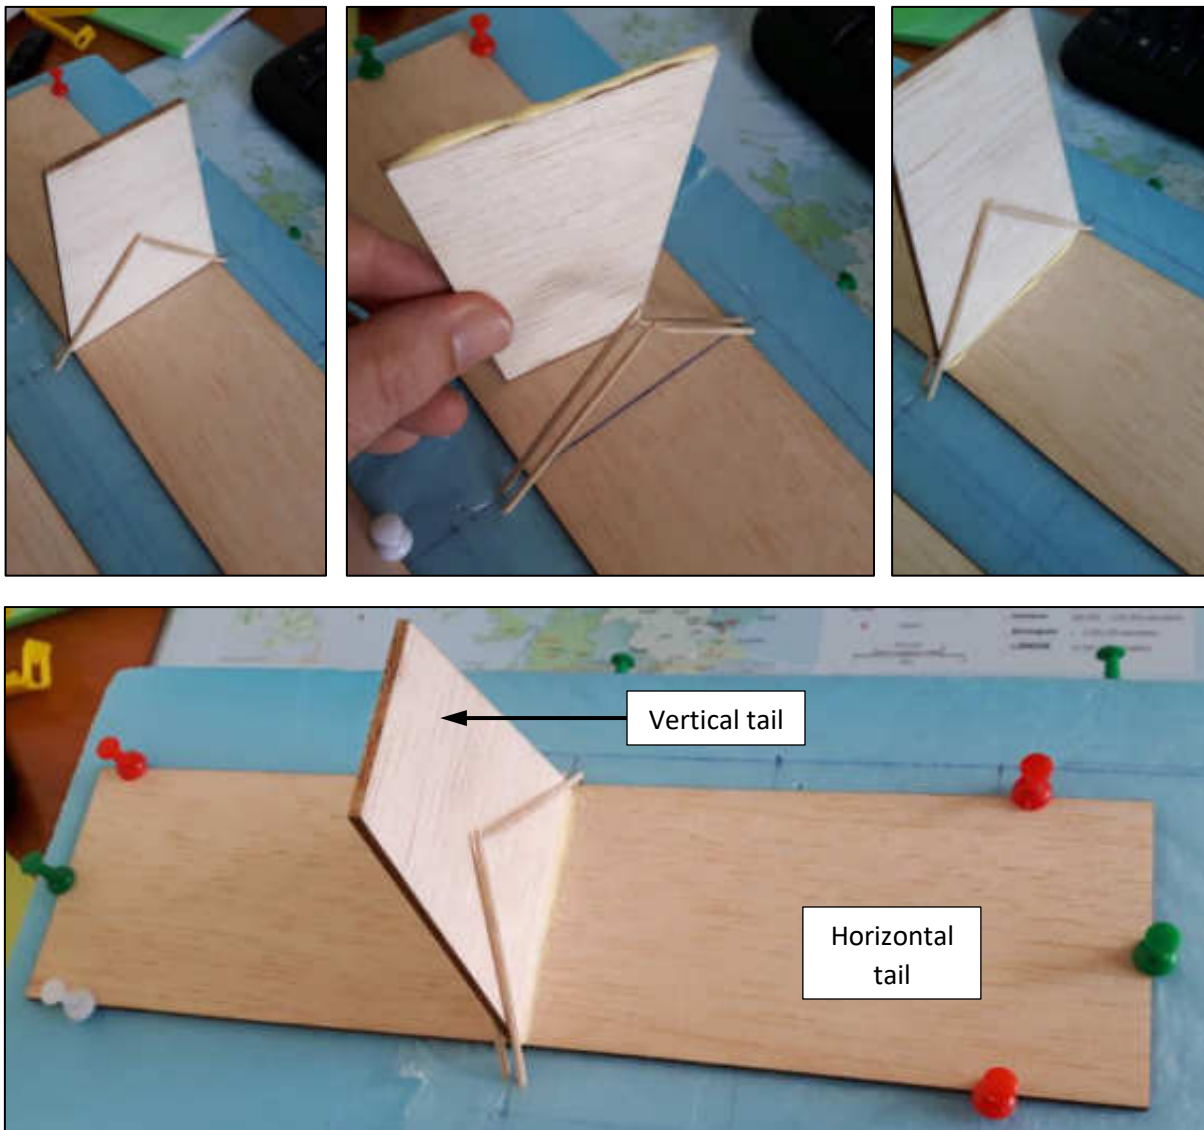

Figure 13: Glue the tail together.
13. Using cocktail sticks to position the vertical tail, glue this to the horizontal tail, Figure 13.